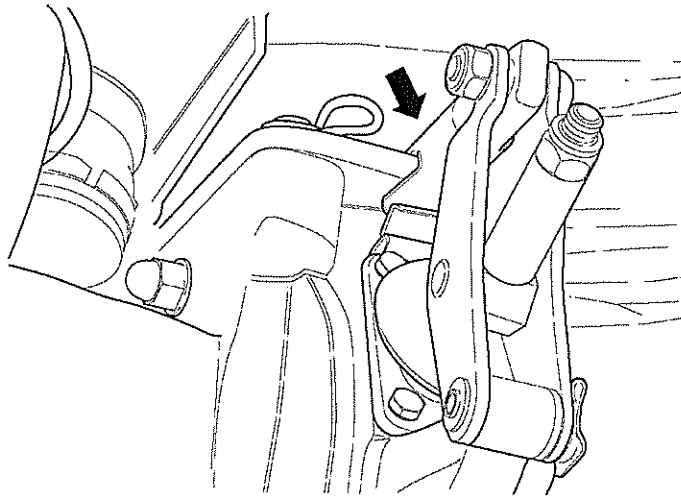

Fig 5 Handbrake actuator
- 4.15 Disconnect actuating lever from transmission brake housing (see Fig 5).